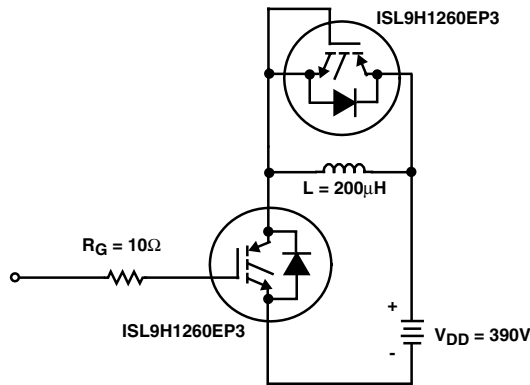

FIGURE 26. INDUCTIVE SWITCHING TEST CIRCUIT
- Values for two Turn-On loss conditions are shown for the convenience of the circuit designer.  $E_{ON1}$  is the turn-on loss of the IGBT only.  $E_{ON2}$  is the turn-on loss when a typical diode is used in the test circuit and the diode is at the same  $T_J$  as the IGBT. The diode type is specified in Figure 26.